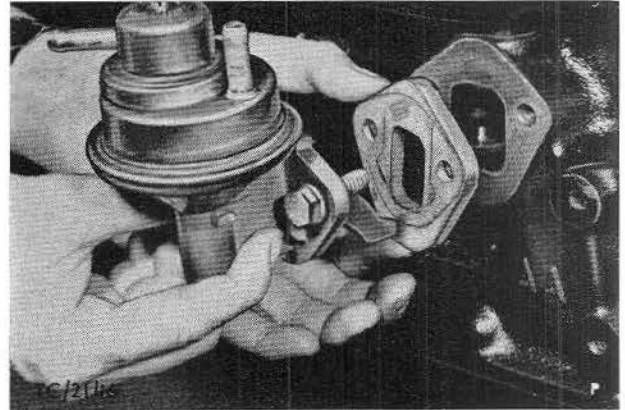

Fig. 23. Remove fuel pump.
13. Detach fuel pump (2 bolts) together with spacer, Fig. 23.